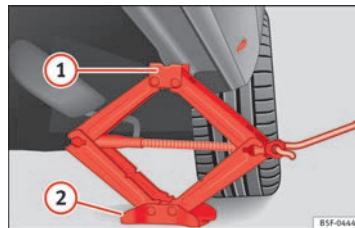

Fig. 174 Strut: mounting the jack on the vehicle.
- Turn the jack*, located below the strut support point, to raise it until tab ① → Fig. 174 is below the housing provided.
- Align the jack* so that tab ① “grips” onto the housing provided on the strut and the mobile base ② is resting on the ground. The base plate ② should fall vertically with respect to the support point ①.